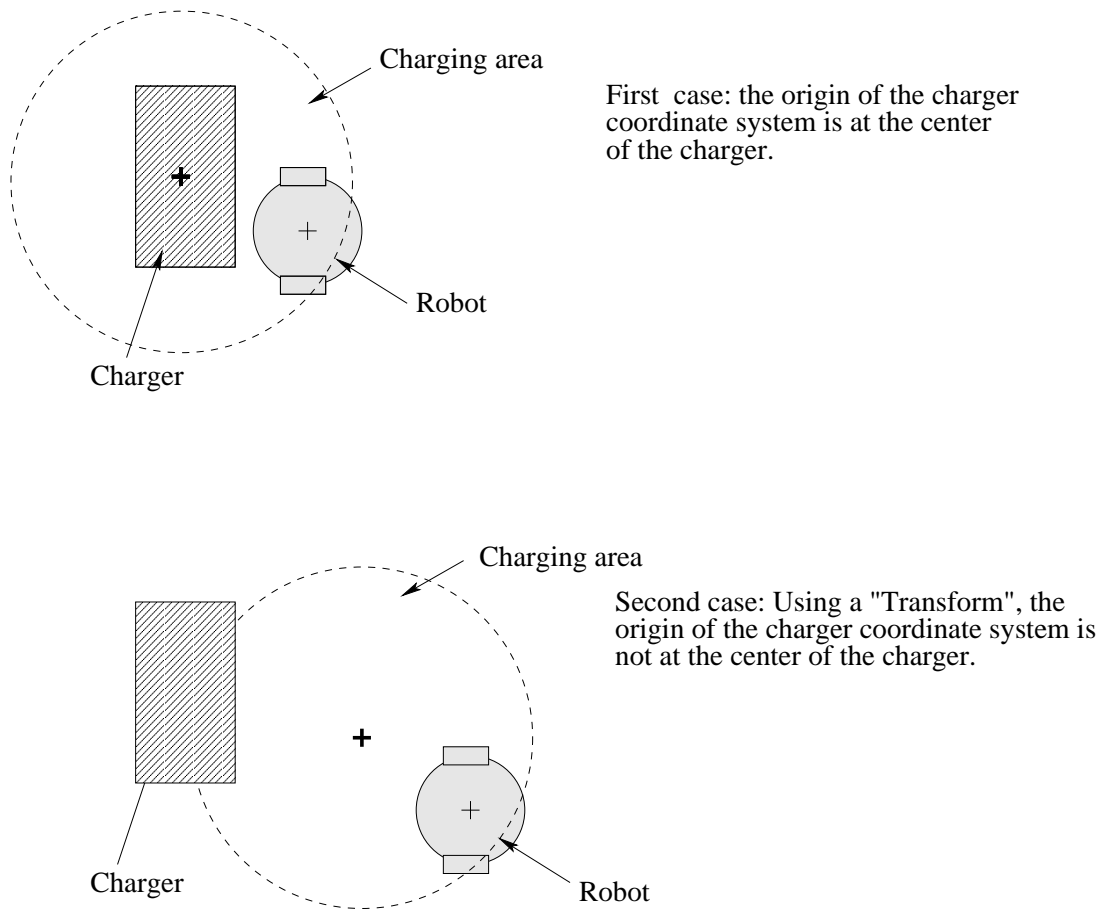

Figure 2.2: The sensitive area of a charger
- `radius`: radius of the charging area in meters. The charging area is a disk centered on the origin of the charger coordinate system. The robot can recharge itself if its origin is in the charging area. See figure 2.2.